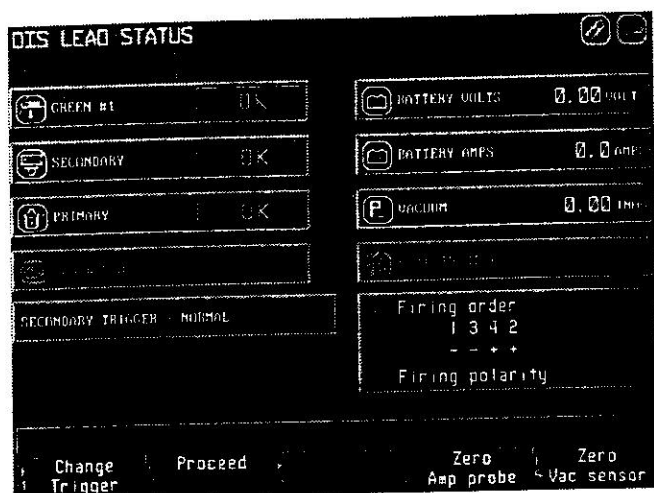

Figure 1-11
- B - Trigger Lead Status Icon** – If this icon flashes, press [F7] to display the "Trigger Lead Status" screen (refer to Figure 1-11). This screen indicates which leads are not functioning correctly.
2. Press [F7]. The "Leads Status" screen appears (see Figure 1-11).